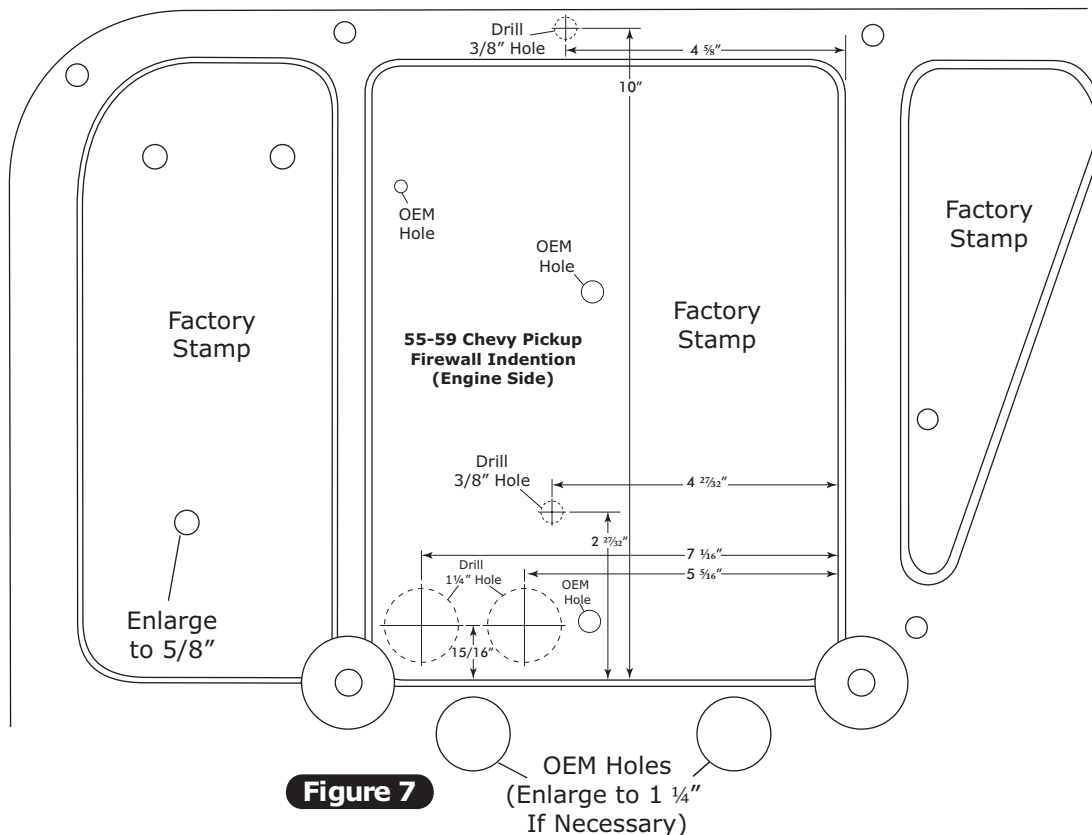

Figure 7
1. Drill (2) 1 1/4" holes and (2) 3/8" holes in firewall. (See Figure 7, below).
2. Enlarge OEM hole in firewall to 5/8" (See Figure 7, below).